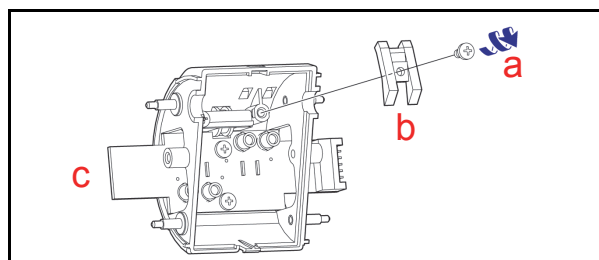

Figure 4-12 Upper Guide Prism Removal
9. Remove the single (1) Prism Mounting Screw (See Figure 4-12 a) and remove the Prism (See Figure 4-12 b) from the Upper Center Guide Assembly (See Figure 4-12 c).